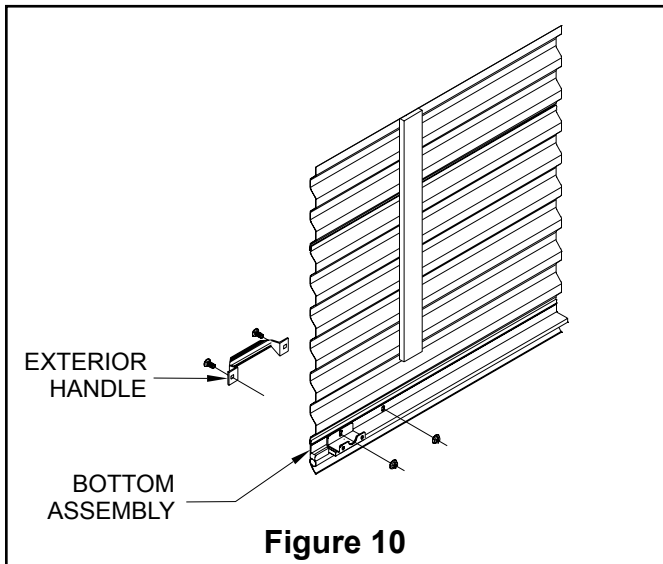

Figure 10
6.2 Attach one keeper to the bottom interior edge of each side of the door with one (1) 1/4" carriage bolt and whiz nut that was just removed. On doors with two handles, install one of the handles as you install the left side keeper (See Figure 10).
8.2 Exterior handle: Attach the handle(s) to the bottom exterior edge of the door with two (2) 1/4" carriage bolts and whiz nuts provided (See Figure 10). Doors 8' wide and larger will have two handles.